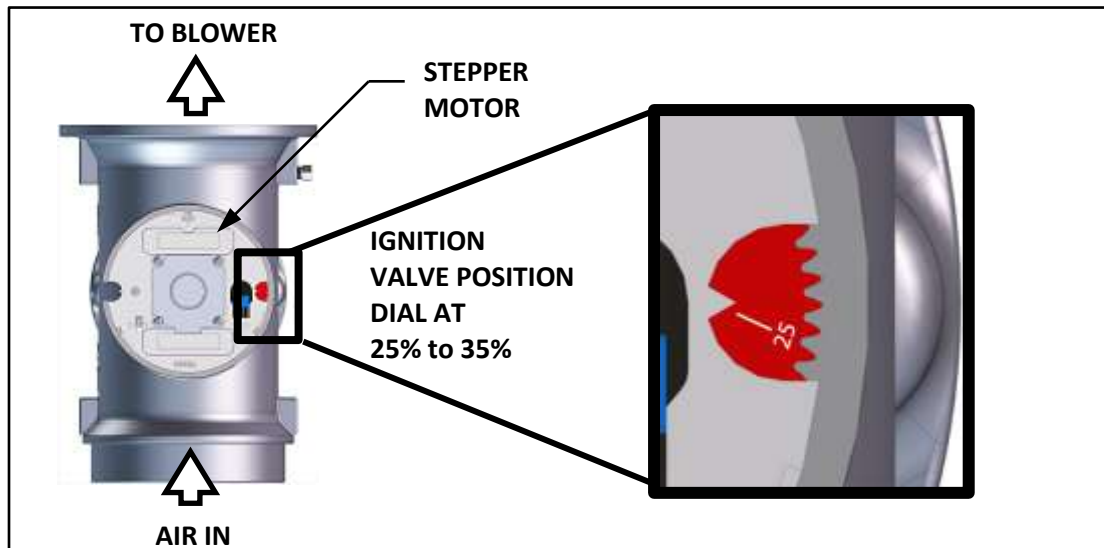

Figure 4-5: Air/Fuel Valve in Ignition Position
- a) The Air/Fuel Valve rotates to the ignition position and closes the ignition switch. The Dial on the Air/Fuel Valve (**Figure 4-5**) will read between **25** and **35** to indicate that the valve is in the low fire position.